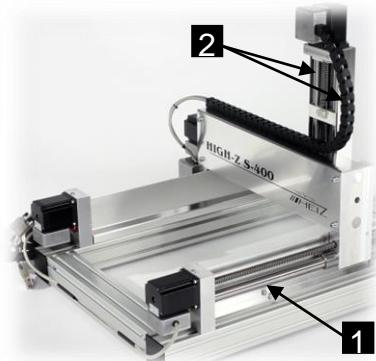

Figure 28: linear guides of the X-and Z-axis
- 2 Grease the linear guides of the X-axis (Fig. 28/1), the Z-axis (Fig. 28/2) well using a low-friction grease wetted cloth DIN 61650 or alternatively apply the fat with a suitable brush.